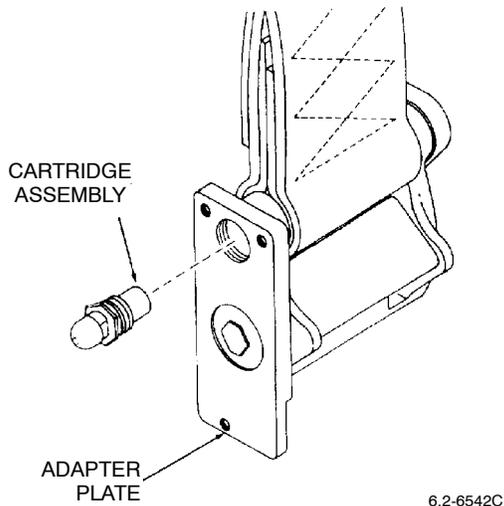

Figure 32. Install Cartridge
(4) Verify cartridge has not exceeded shelf or service life. (QA)
(5) Verify proper information on Parachute Record (OPNAV 4790/101). (QA)
(6) Install cartridge finger-tight until packing contacts adapter plate (Figure 32).